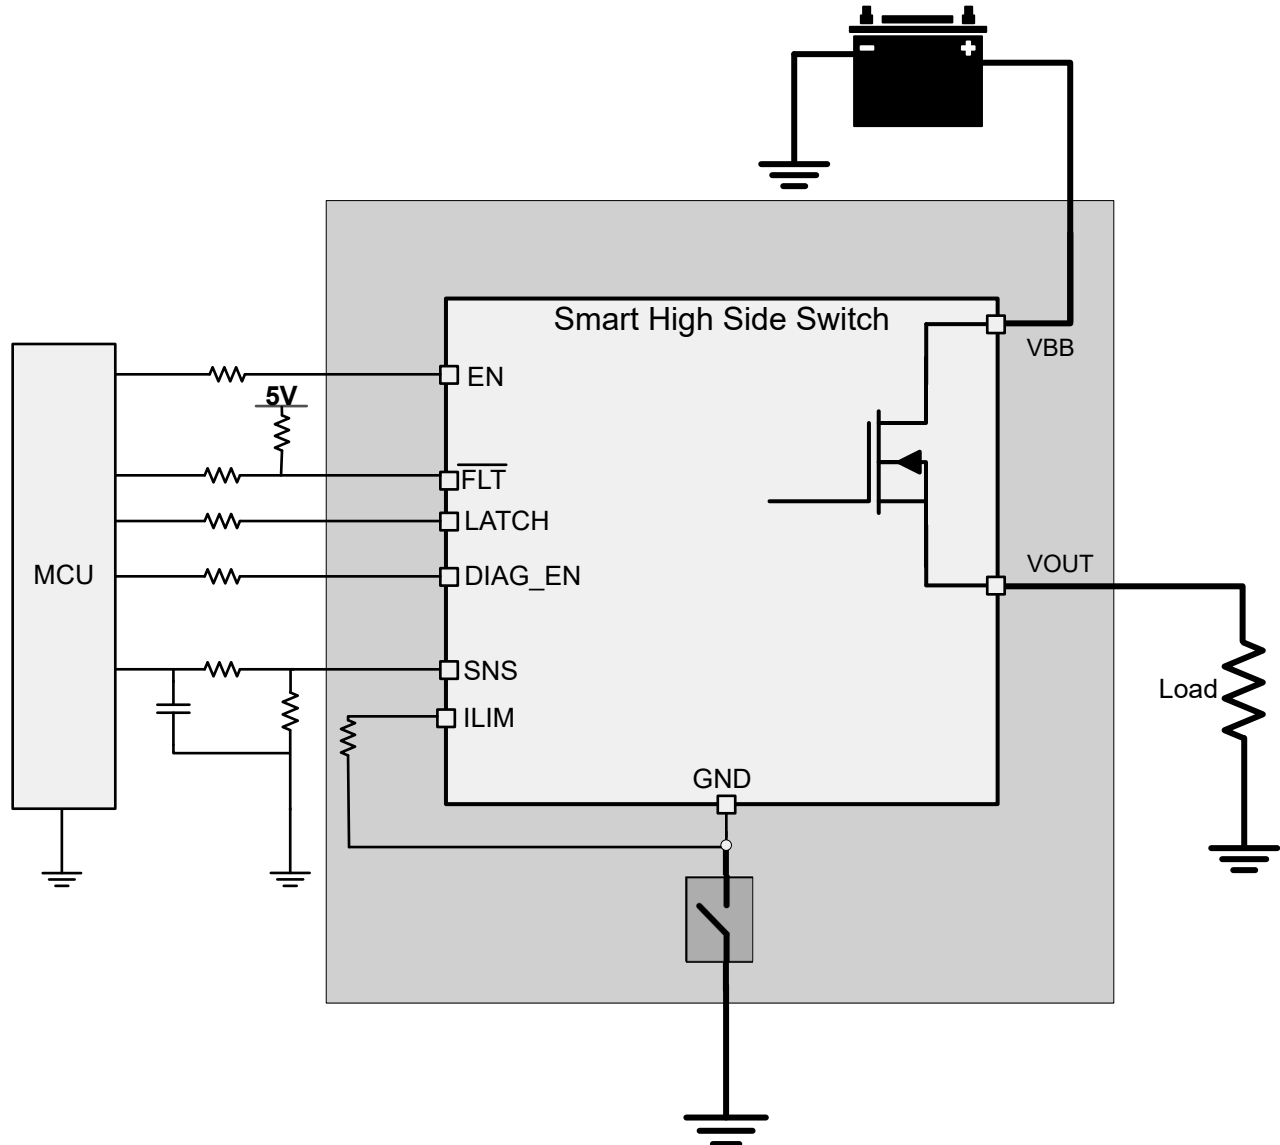

Figure 8-17. Loss of Device GND
**Case 1 (loss of device GND):** loss of GND protection is active when the thermal pad (Tab),  $I_{C\_GND}$ , and current limit ground are one trace connected to the system ground, as shown in Figure 8-17.